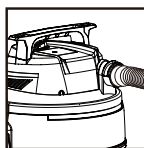

FIGURE 14
39. Your vacuum can be used as a powerful blower. To use your unit as a blower, clear hose of any obstructions. Insert machine hose end into blower port on rear of unit. **FIGURE 14.** Twist slightly to tighten the connection. Caution should be used when using as a blower due to the powerful force of air when using certain attachments.